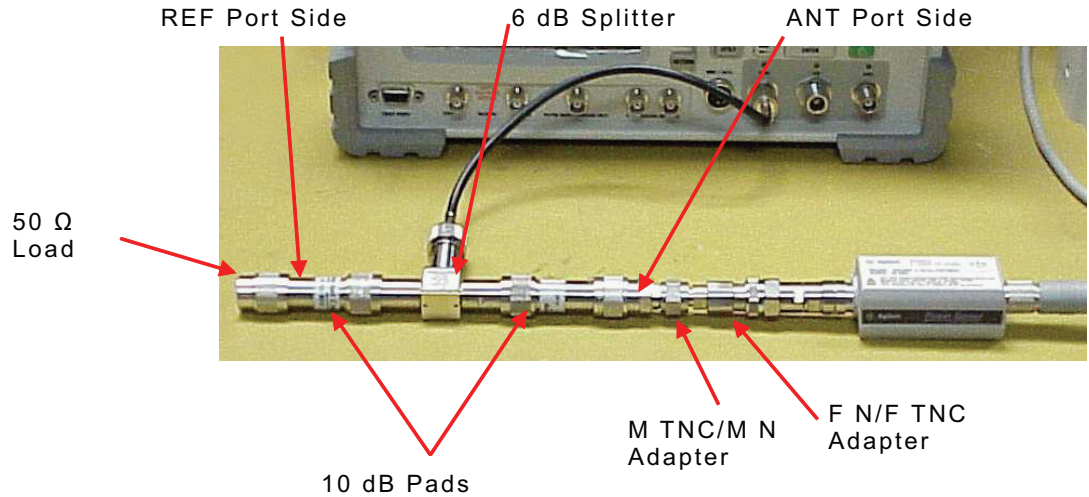

Fig. 4-13 Splitter Calibration Setup (ANT Port)
3.	Configure equipment. Refer to Fig. 4-13 as needed.